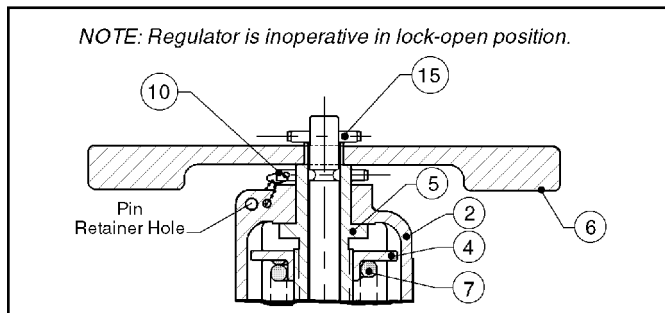

Figure 1: Spring Chamber in Lock-Open Position
- Remove the lock-open pin (10) from the pin retainer hole in the spring chamber (2). (See Figure 1.)
- System internal pressure must be at/near 0 psig (0 Barg). This will ensure plug (1.2) is fully open. **NOTE:** Do not change range spring (7) setting by rotating T-handle (6).
- Insert pin (10) and jostle T-handle (6); lift up or push down to secure pin (10) thru adjusting screw (5).